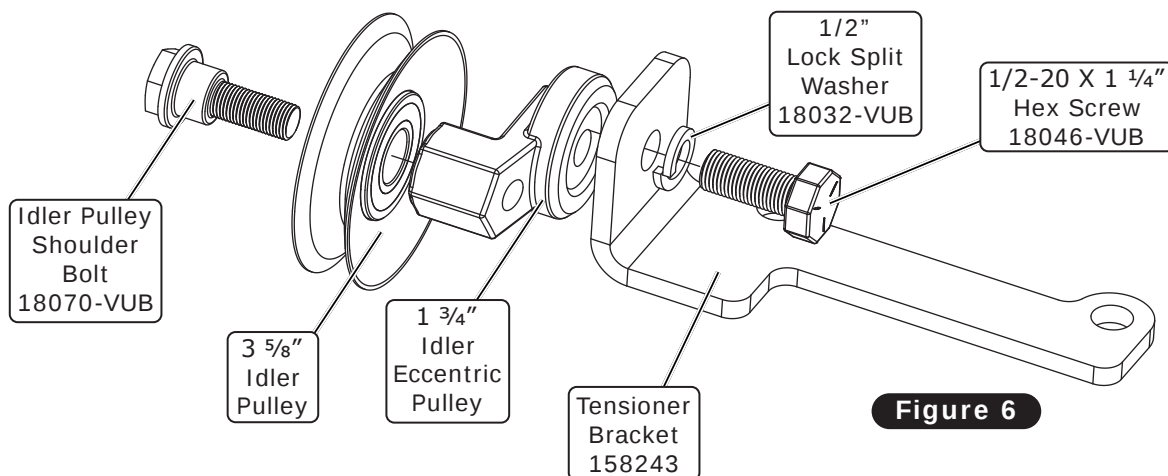

Figure 6
7. Install the idler pulley shoulder bolt through the 3 5/8" idler pulley and into the 1 3/4" idler eccentric pulley as shown in Figure 6, below.
8. Install a 1/2-20 x 1 1/4" hex screw through a 1/2" lock split washer and the tensioner bracket and into the 1 3/4" idler eccentric pulley as shown in Figure 6, below. Leave loose.